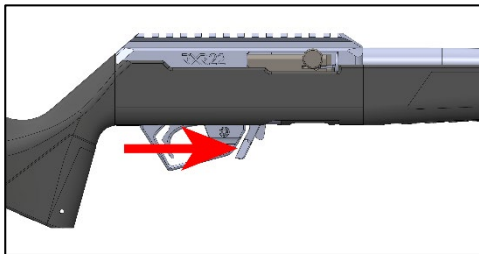

Figure 12
- Keeping your finger away from the trigger and outside of the trigger guard, be prepared to catch the magazine with one hand and press forward on the magazine latch to remove the magazine – Figure 12. It should drop free from the firearm with little effort.